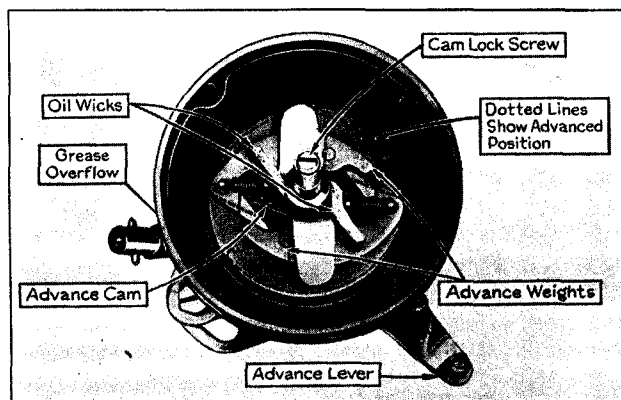

Fig. 16. An improved type of automatic advance mechanism is used on the V-16.
**Spark Control:** The automatic spark control mechanism is different from the Cadillac 353 and is shown in Fig. 16. The manual control is also different, being controlled by a rod and a rocker arm mounted on the dash, as shown in Fig. 44. When the spark control button on the rod at the instrument panel is all the way in, the spark is advanced. To retard the spark, simply pull this button out the desired distance.